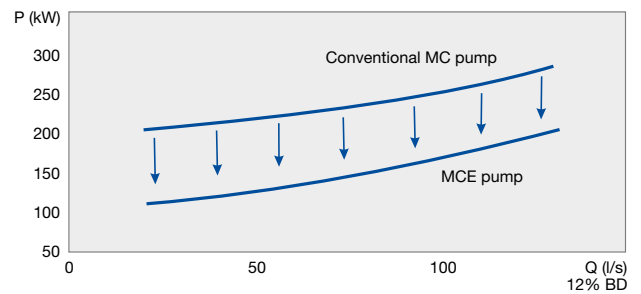

Fig. 1a. Power consumption savings.
- lower energy consumption (Fig.1a)